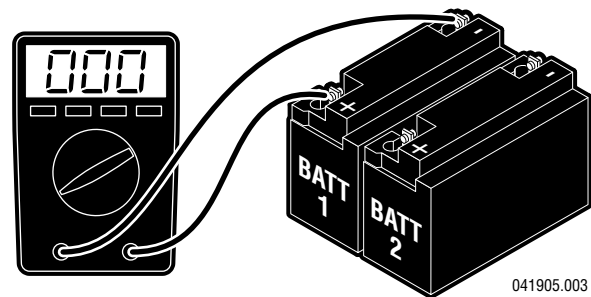

Figure 5-3.
4. Continue to press the TABLE UP button on the pendant control so that the pump motor continues to run and using a DC voltmeter, check the voltage drop of each battery individually. See figure 5-3.